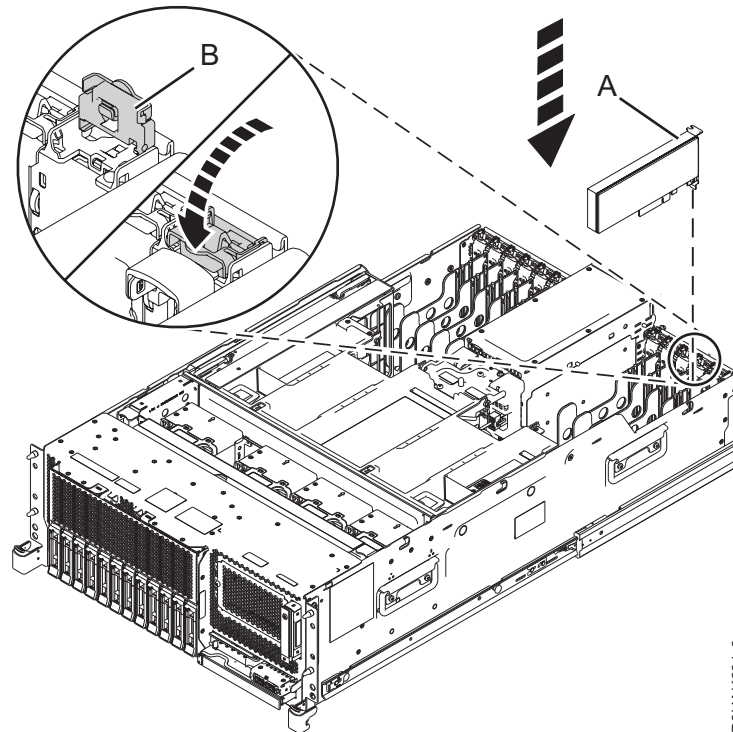
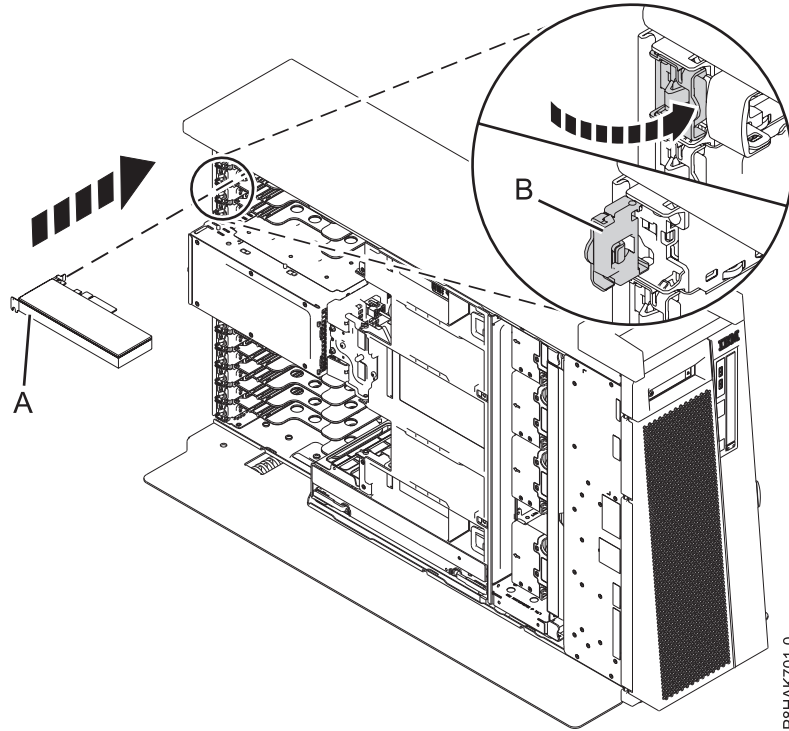

Figure 54. Installing or replacing a PCIe adapter in a rack-mounted system
Figure 55. Installing or replacing a PCIe adapter in a stand-alone 8286-41A system
7. If the adapter latch (**B**) at the target slot is not already in the open position, pull the latch into the open position by rotating the latch outwards from its clip on the back of the system, as shown in Figure 54 and Figure 55 on page 58.
8. Carefully grasp the adapter by its top edge or tailstock, and align the adapter with the slot and its connector on the system backplane (**A**), as shown in Figure 54 and Figure 55 on page 58.
10. To lock the adapter in its slot, rotate the adapter latch (**B**) in the direction that is shown in Figure 54 and Figure 55 on page 58.